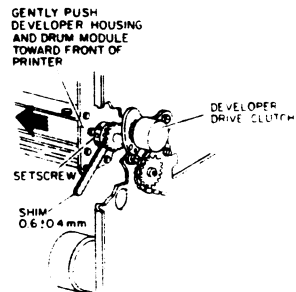

Figure 1. Check/Adjust Developer Drive Assembly
3. CHECK FOR A GAP OF  $0.6 \pm 0.4$  mm BETWEEN THE DEVELOPER DRIVE COUPLING AND DEVELOPER DRIVE (FIGURE 1).
1. ADJUST GAP BETWEEN THE DEVELOPER DRIVE COUPLING AND DEVELOPER DRIVE (FIGURE 1)
CHECK THE FORCE BEING APPLIED BY DEVELOPER MODULE LATCH (FIGURE 1).